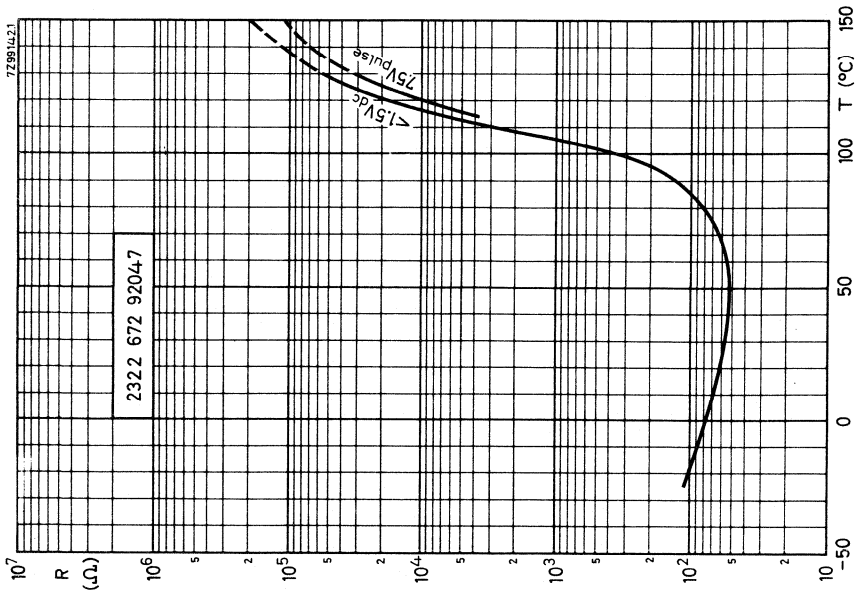

Fig. 4.
2. Overvoltage (Fig. 4), caused, for example, when the 220 V mains is accidentally applied to a 115 V mains appliance.